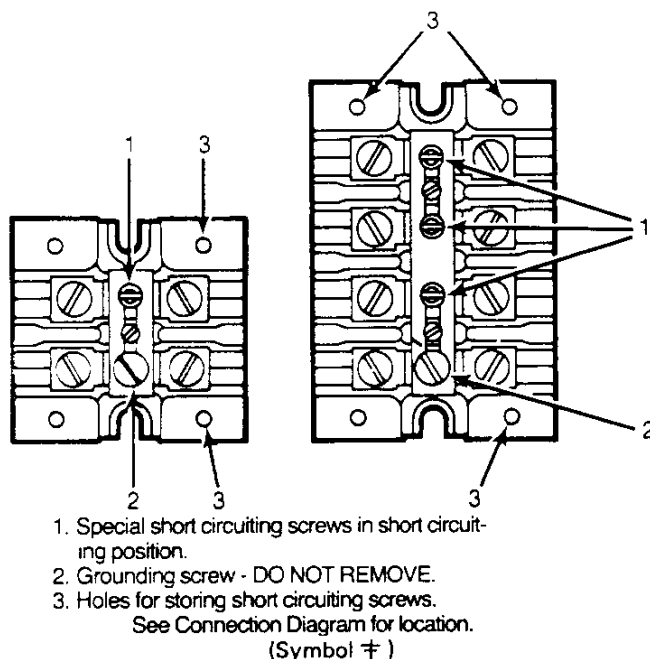

FIGURE 18. SHORT CIRCUITING DEVICE
7. Remove screws from short-circuiting strip on terminal blocks in current transformer circuits, and store in tapped holes in corners of blocks. Figure 18 illustrates such devices. Observe the listed precautions.